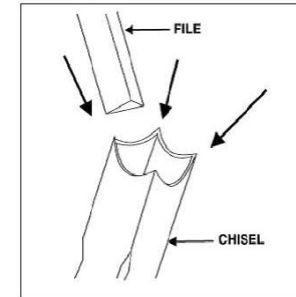

Fig 10
3. Use a small, triangular, smooth file to relieve the inner corners of the chisel. See Fig.10. Remove any burrs from the outside of the chisel with a fine oilstone.